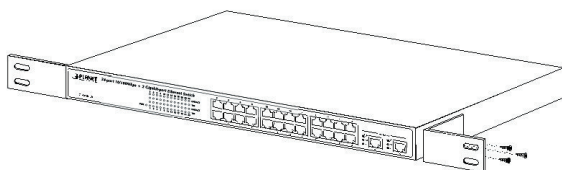

Figure 2-3 Attaching the brackets to the FGSW-2620
Step2: Attach a rack-mount bracket to each side of the Switch with supplied screws attached to the package. Figure 2-3 shows how to attach brackets to one side of Switch.